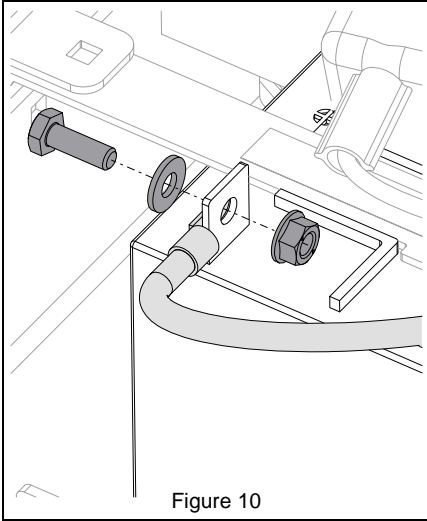

Figure 10
- Secure negative battery cable to the negative battery terminal using hardware removed in step 1. See Figure 10.